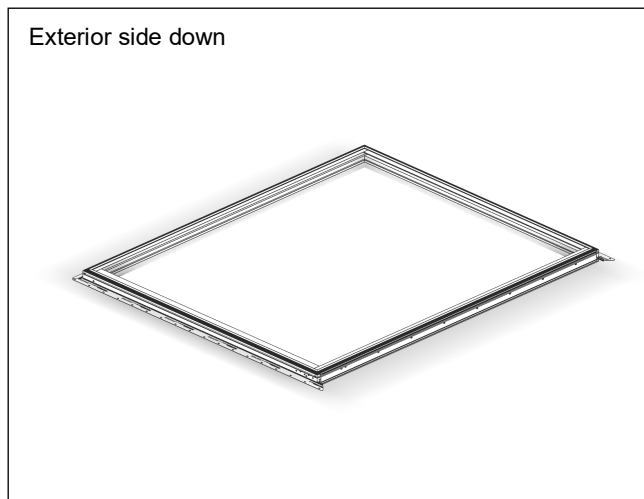

Figure 25 Inspect
1. Set up assembly area (clean flat area) setting the assemblies exterior side down. Inspect assemblies for any damage. See Figure 25.